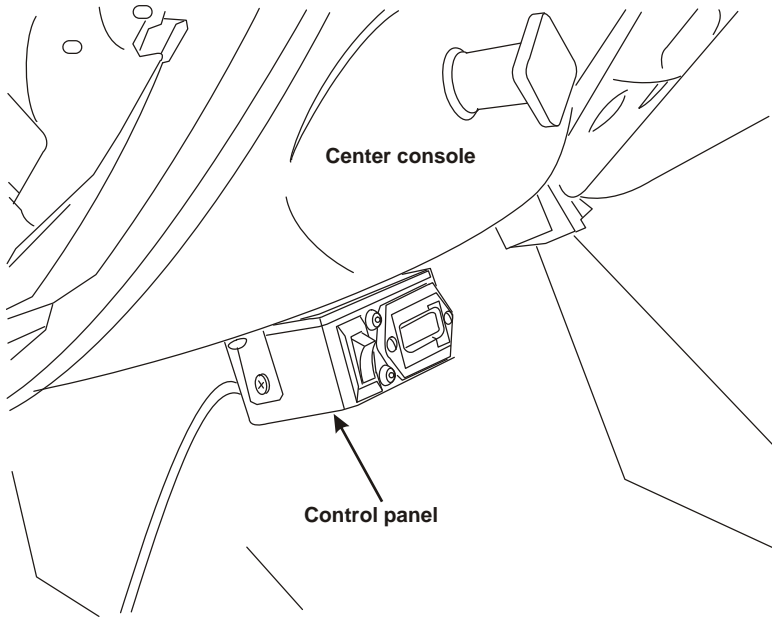

Figure 4.1
- Mount the control box to the bottom of the center console on the dash using the supplied sheet metal screws (Figure 4.1).